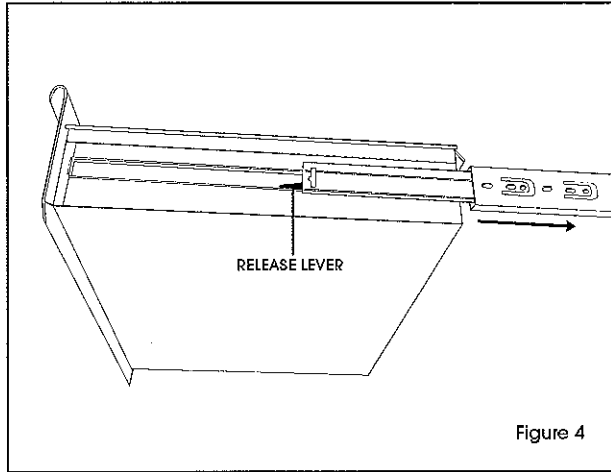

Figure 4
1. Remove drawer slides from the outsides of the drawer. Press the drawer slide release lever to remove slides completely. (See Figure 4)